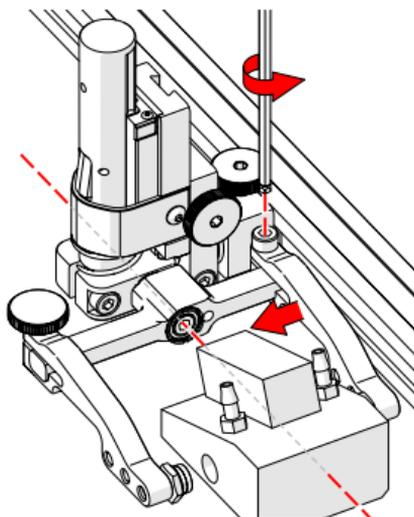

Fig. 67 - Adjust inner arm
4. Position the wedge on the inner probe holder arm (Fig. 67).
**TIP:** The probe holder yoke can accommodate many different probe and wedge sizes of varying widths. It is best to centre the wedge with the yoke's pivot axis. This can reduce wedge 'rocking' when scanning. Position the inner probe holder arm accordingly (Fig. 67) using the supplied 3 mm hex driver (Fig. 24).